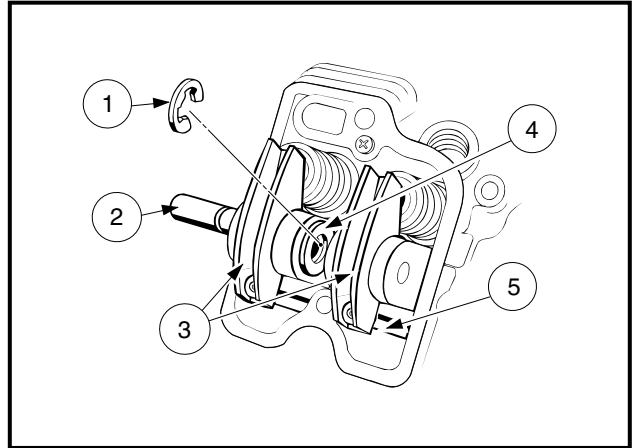

Figure 13-11 Remove Rocker Arms and Push Rods
**NOTE:** The FE350 and FE400 engines are equipped with hydraulic lifters, which automatically eliminate all clearance in the valve train. Therefore, the rocker arms (3) and the push rods (5) do not need to be put back in their original positions (**Figure 13-11, Page 13-11**).
2. Remove the E-ring (1) and pull the rocker shaft (2) out of the cylinder head (**Figure 13-11, Page 13-11**).
3. Lift out the rocker arms (3), washer (4), and push rods (5).